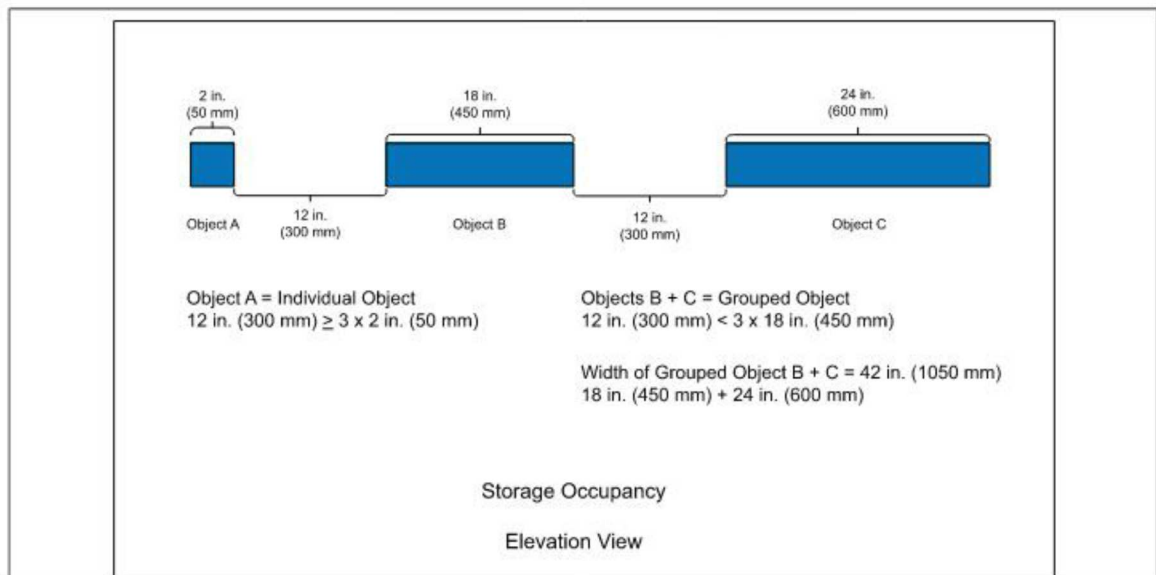

Fig. 2.5.4.5.3.1. Example of an "Individual Object" and a "Grouped Object" for analyzing obstructions
2.5.4.5.3.2 Group an object with an adjacent object of the same size or larger if the horizontal distance between the two objects is less than 3 times the width of the smaller object. See Figure 2.5.4.5.3.1 for an example of applying this guidance.
2.5.4.5.3.3 If two or more objects are considered a "grouped object", their overall width is the collective sum of each of the objects that make-up the grouped object; the open spaces between them do not need to be included in the calculation as demonstrated in Figure 2.5.4.5.3.1.